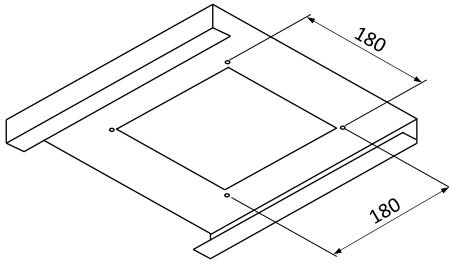
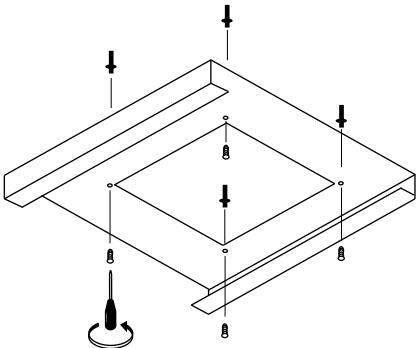

Fig 2
Fig 4
2. Drill holes in the ceiling at the 4 marked locations (Fig 2) and fasten the ceiling bracket using plugs and screws (Fig 4).